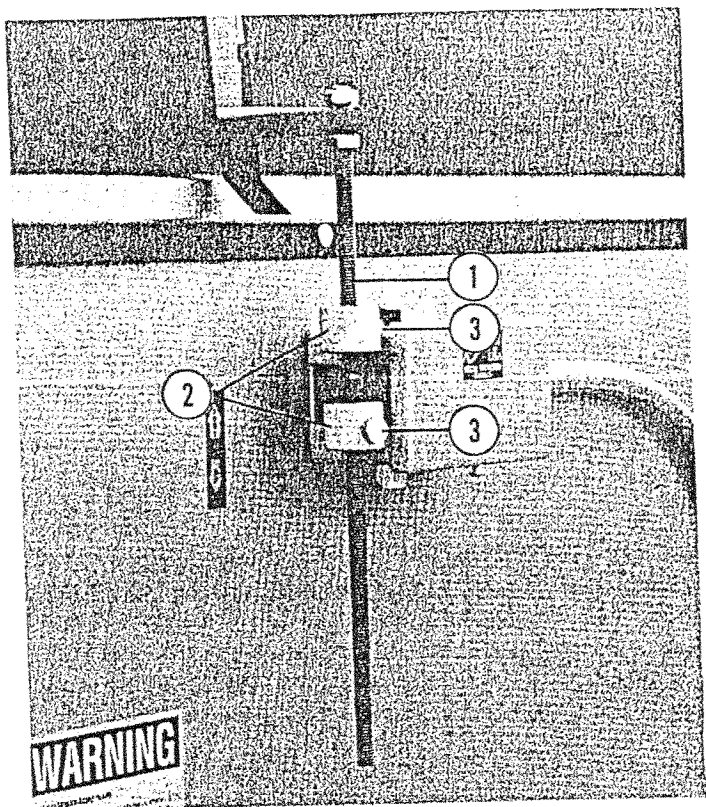

Figure 5
This switch (Fig. 5) is provided to limit travel of the front hydraulic cylinder ram during punch or press work operation.
Press in on quick-set stroke buttons (Item No. 3, Fig. 5) and position stroke collars (Item No. 2, Fig. 5) to allow the ram stroke desired. Final fine adjustment is made by rotating the stroke collars on the vertical threaded rod (Item No. 1, Fig. 5).
6. Release limit switch quick adjustment collars from shipping position (see Fig. 5).